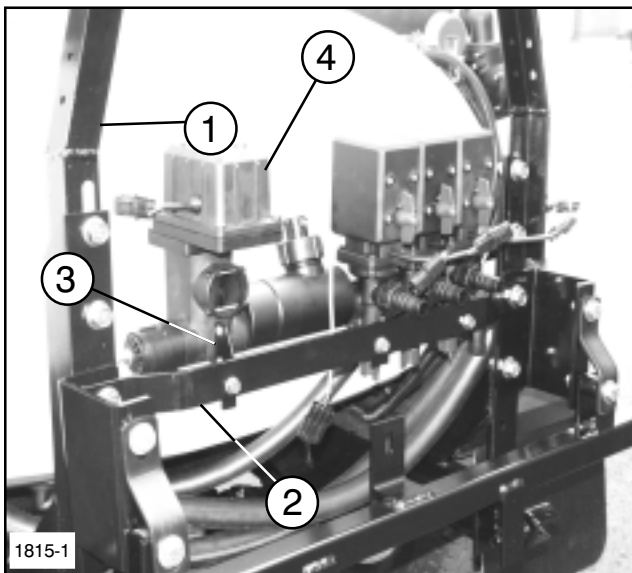

FIG. 4
6. Install the Control Valve Assembly to the Valve Mounting Bar with three (3) 5/16" hex head cap screws. (See FIG. 4)